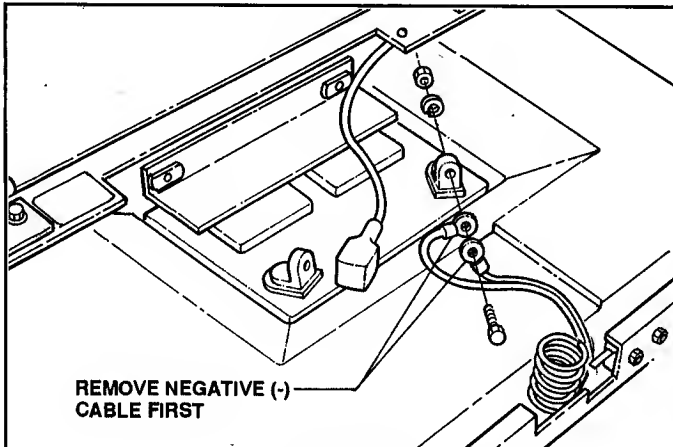

FIGURE 7.4
2. Slide protective boot aside and disconnect the battery's positive (red wire) terminal. See Figure 7.4.